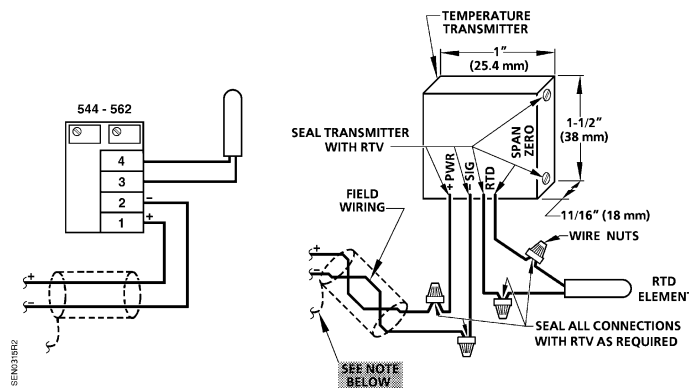

Figure 4. Wiring Connections for 4 to 20 mA Sensors.
- Connect the field wiring to the transmitter with the positive (+) 26V supply lead to the PWR wire and negative signal lead to the SIG wire. See Figure 4 and Table 1.